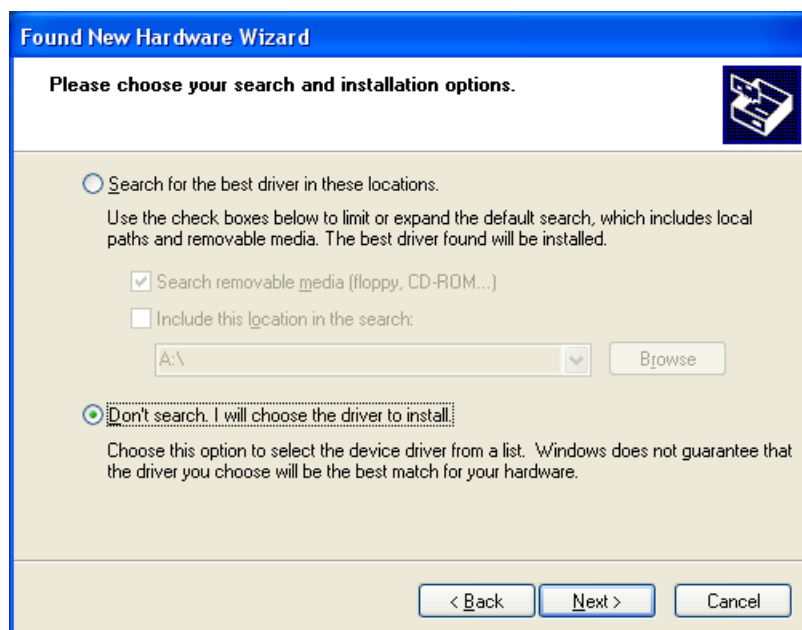

Fig. 2-2 Choose search and installation option
- 3) A dialog box as Fig. 2-2 will pop up. Select “Don’t search, I will choose the driver to install”, click [Next] to continue.